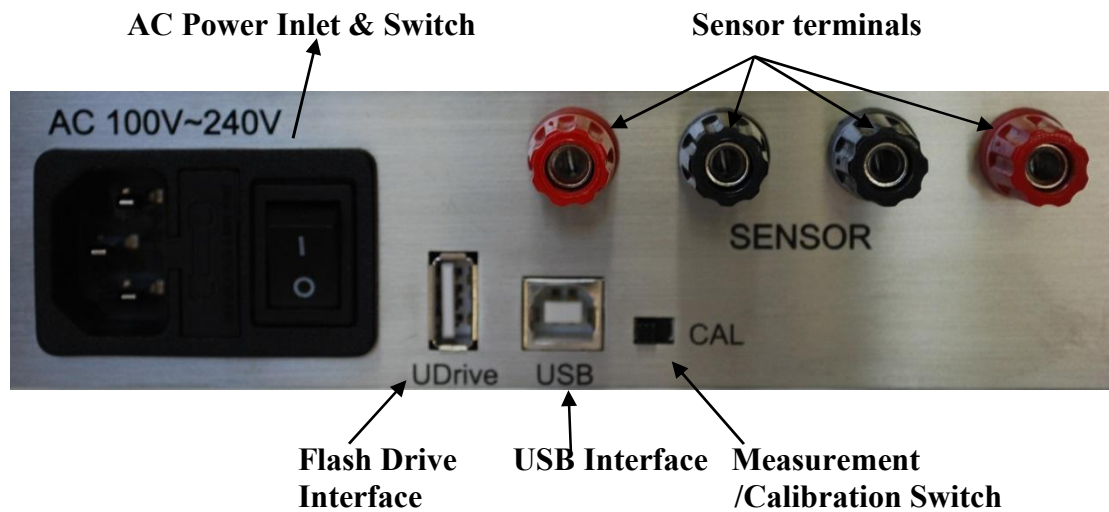

Figure 2: Rear Panel
- ❖ **Check the position of “Measurement/Calibration Switch” on the rear panel. Please refer to Figure 2. The switch must be at measurement (left) position. Loss of calibration data will occur if the switch is at the calibration (CAL) position when the instrument is used in measurement application.**